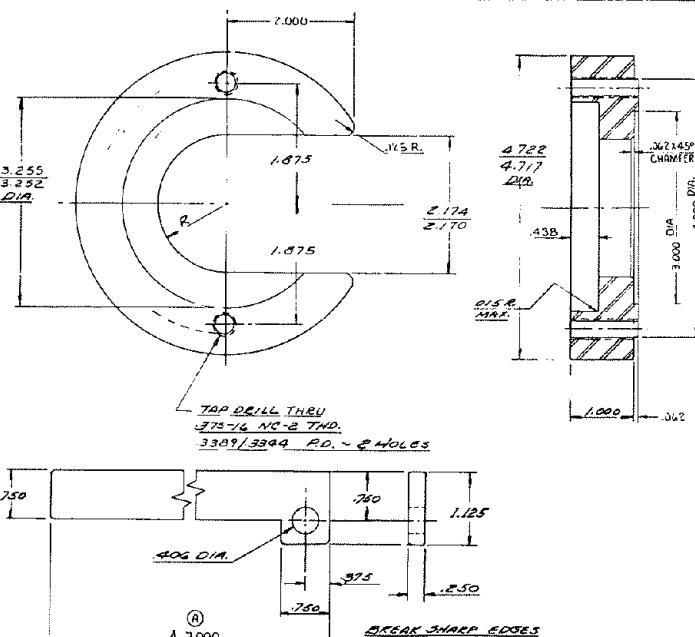

Fig. 15 COUNTERSHAFT-FRONT BUSHING AND RETAINER
8. Use front bore bearing pilot tools, shown on Page 25 Figure 15 to support the front end of both countershafts. As piloting tools are inserted into the front case bores and on end of shafts, keep timing teeth in correct mesh to each respective gear.
16. With modified 2-9/16" socket wrench, Fig. 15, torque mainshaft locknut (B-28) to 550-600 lbs. ft.